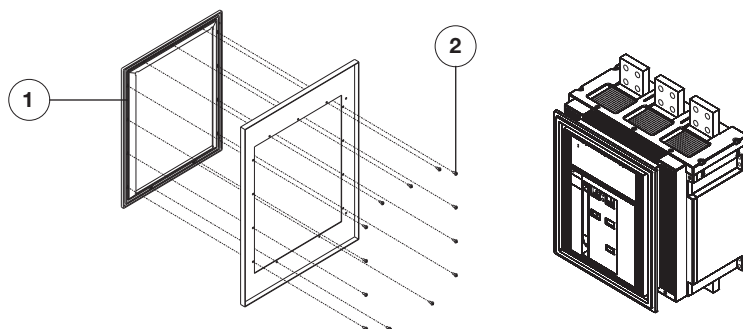

Fig. 8
4.2 Installation of the flange on the compartment door (Fig. 8)
- Apply the flange (1) to the front of the compartment door and fix it from the inside with the self-tapping screws (2).